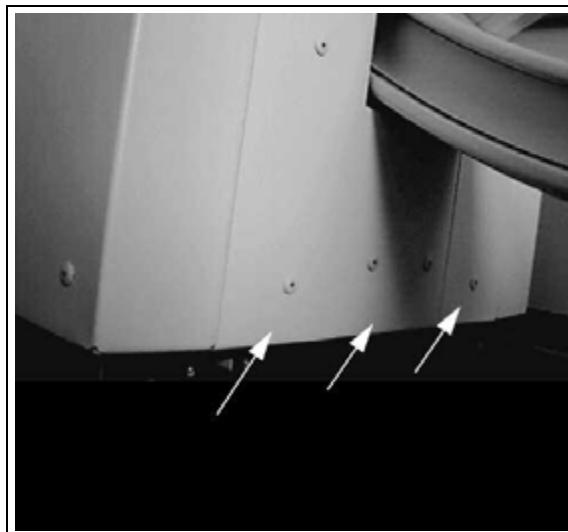

Fig. 29: Covers_B
- Remove the side and lower C-arm covers (\(Fig. 29 / p. 63\)).